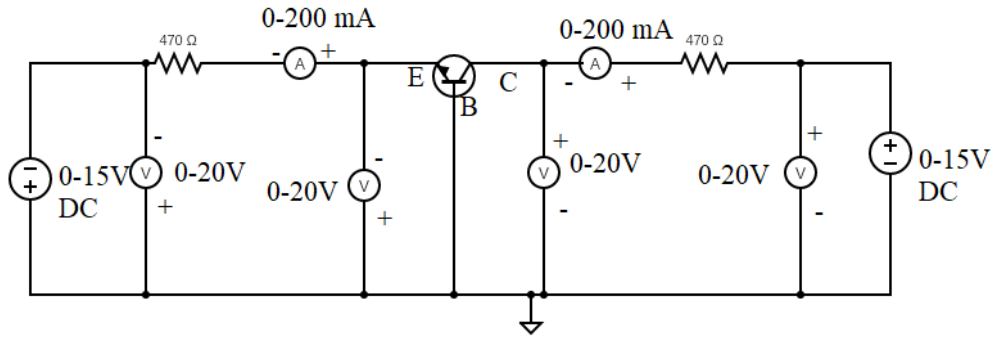

Figure 7.1: Circuit Diagram for transistor as common base configuration
1. Connect the circuit as per the given Figure 7.1.